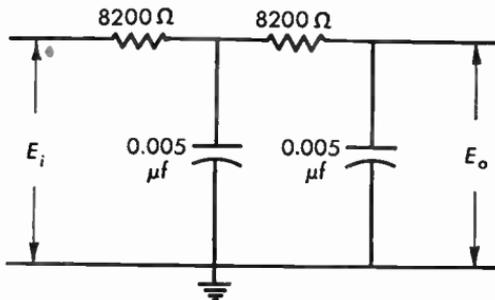

Fig. 11.20 Two-stage integrating circuit.
11.20 The amplified synchronizing pulses of a television signal are fed in composite form to an integrating circuit (Figure 11.20). In a system employing 525 lines per frame and 60 fields per second, what will be the percentage output of the line-scanning signal, if the fundamental frequency only is considered?
11.21 Assuming that the integrated field scanning signal across the first capacitor Figure 11.20 is e_f volts and that the line scanning signal is e_l volts what is the percentage output of e_f and e_l across the second capacitor if the fundamental frequency only is considered?